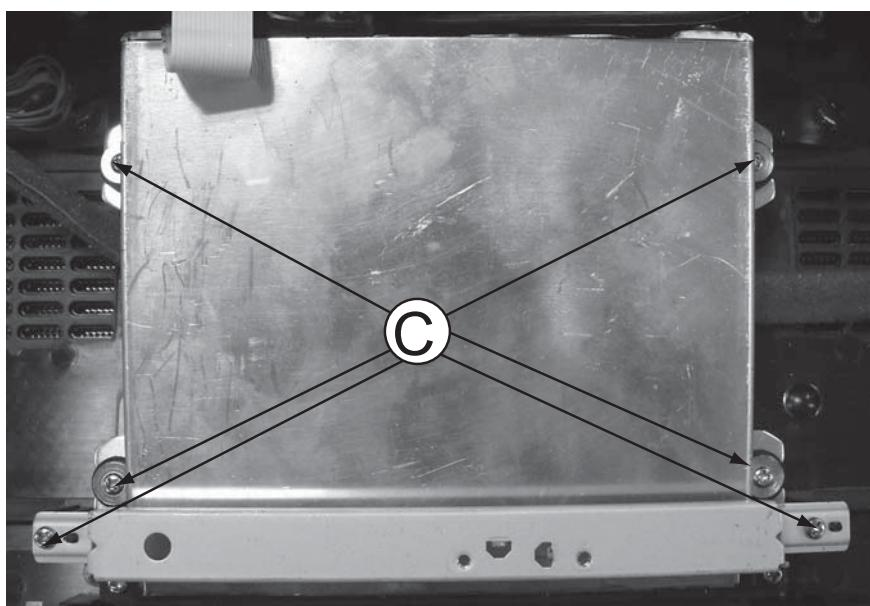

Figure 3
- 1) Loosen 6 screws "C" as shown in figure 3 to remove the Blu-ray loader.